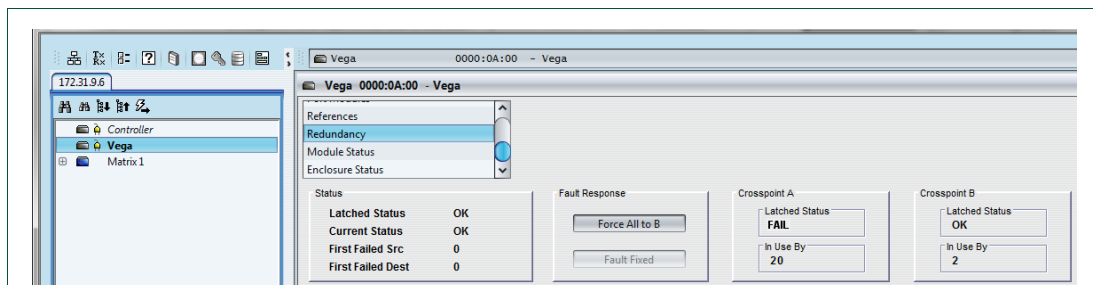

Fig 19. Crosspoint Redundancy
3. Move all of the routes to the redundant crosspoint card (Crosspoint B) by clicking on the **Force All to B** button (Figure 19.)